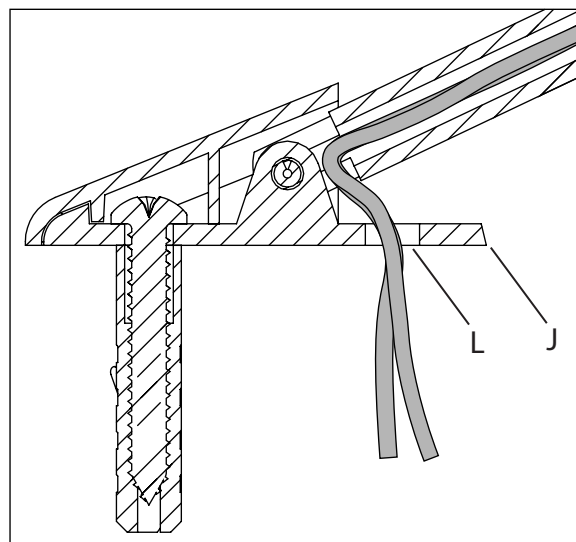

Fig. 5
4. Referencing layout from step 2, use the fixture (A) and mounting brackets (J) as a template to mark the three locations for the mounting screws (K). Mark one location designated for the input wire hole (L). If applicable, mark the location(s) designated for the output wire hole(s) (L). Drill mounting and wire holes in the wall at marked locations.
5. Route remaining cable out of the arm and through the wire hole (L) on the mounting bracket (J) (Fig. 5).